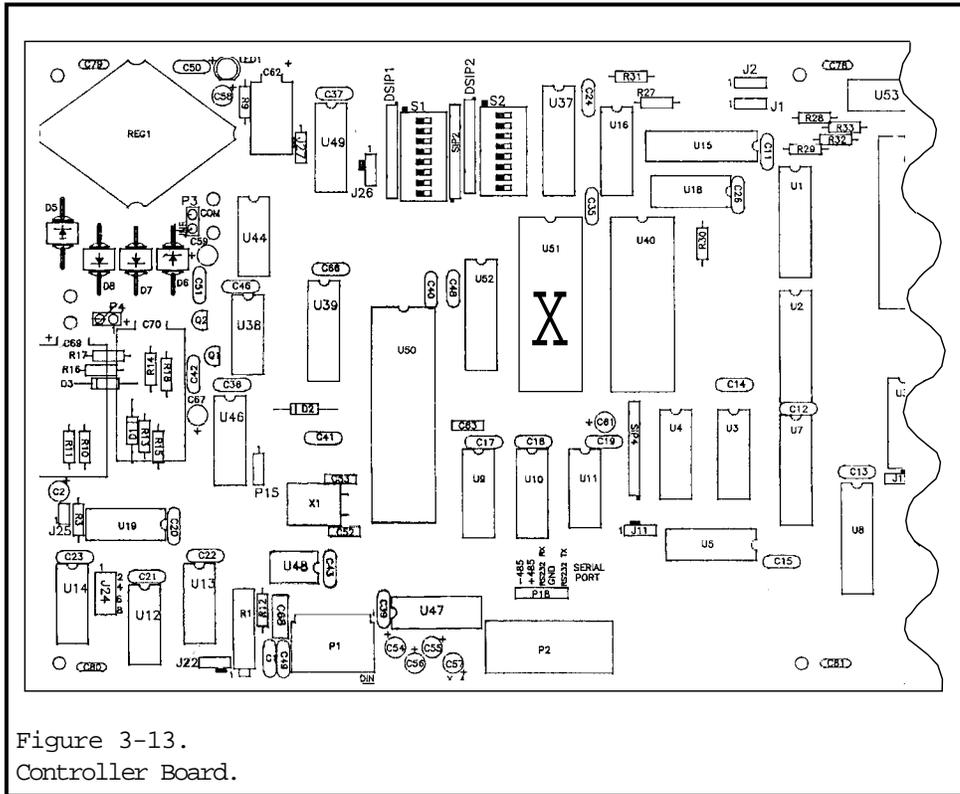

Figure 3-13.
2. Locate component U51 on the controller board (slot U51 is marked with an X in figure 3-13.)